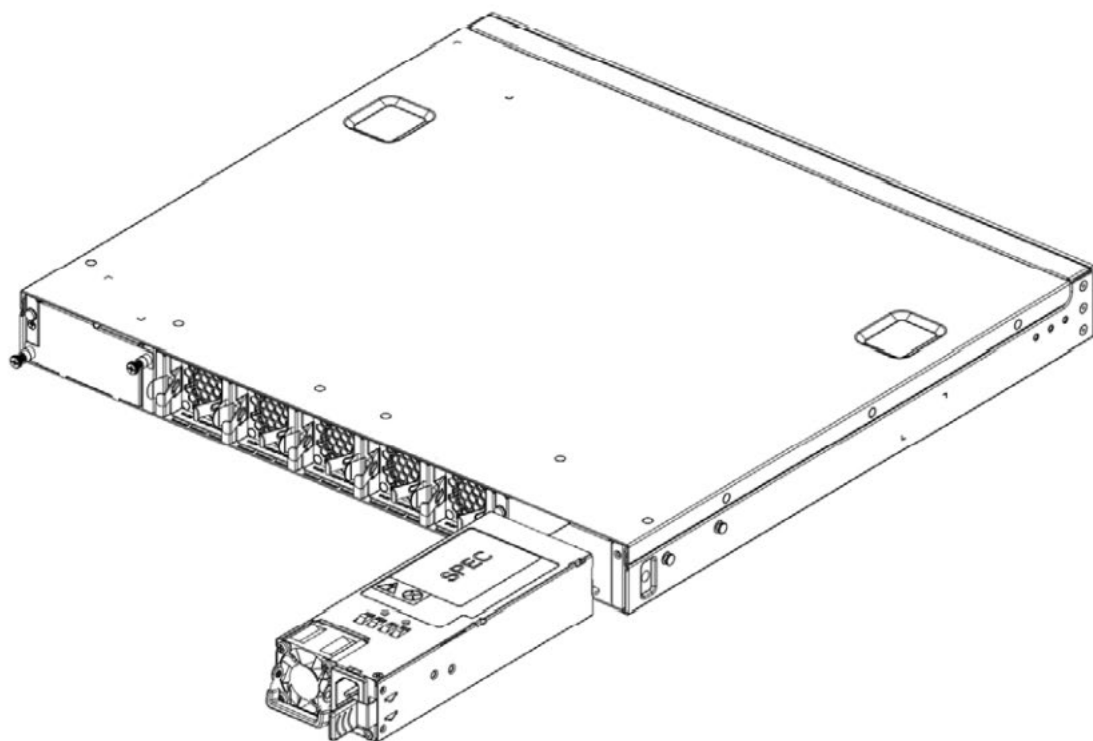

Figure 5: Installing the power module
- ☐ Put the power module into the power module slot of the device. See Figure 5.